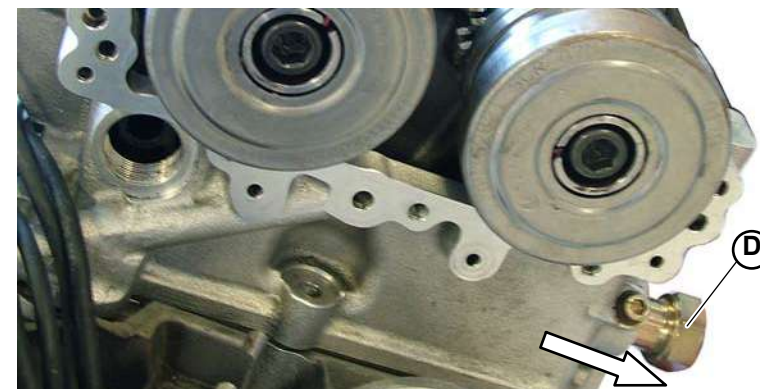

Fig.5
3. Disassemble the hydraulic tightener (D-Fig.5).